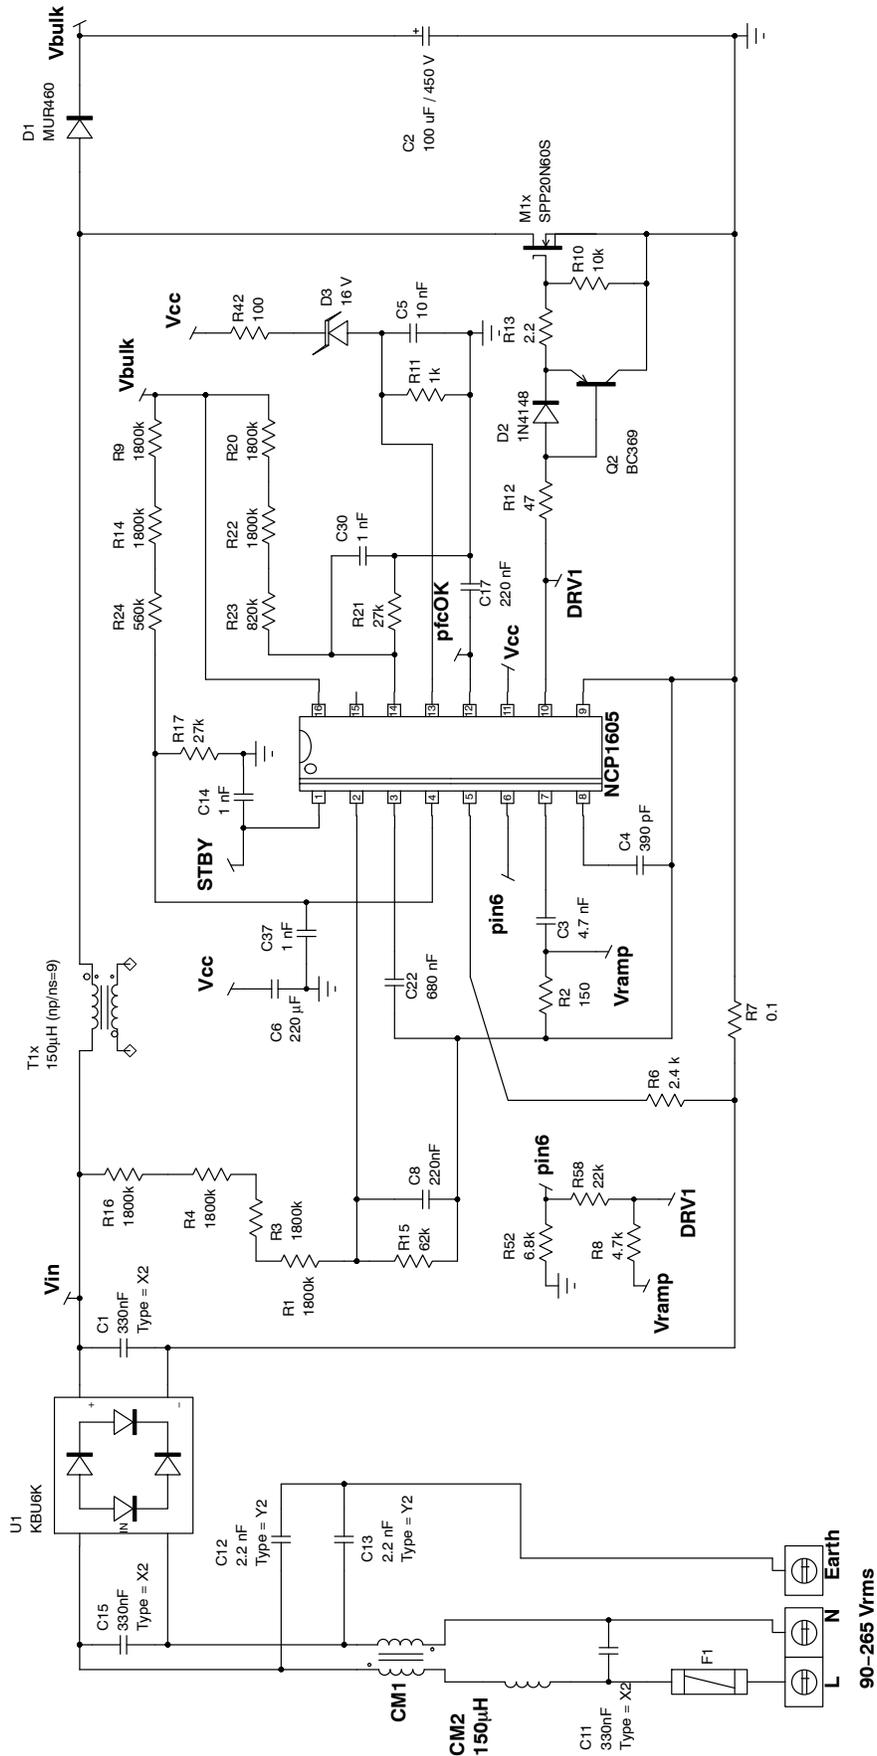

Figure 2. NCP1605 Forward Evaluation Board Schematic - PFC Stage
- Shut-down: if more than 2.5 V are applied to pin 13, the circuit latches off and cannot recover operation until the SMPS is unplugged (to enable the NCP1605  $V_{\text{CC}}$  voltage to drop below its 4 V reset voltage). This latching capability is supposed to trigger in case of a major fault like any overheating of the SMPS. In this application, it is used to disable the power supply in case of a severe runaway of the  $V_{\text{CC}}$  voltage. This is simply made by applying the  $V_{\text{CC}}$  voltage through a 16 V zener diode (D3) so that if  $(V_{\text{CC}} - 16 \text{ V})$  exceeds 2.5 V, the circuit latches off (see Figure 2). R11 adjusts the biasing current through D3 and together with R42 and C5, this resistor avoids that the protection falsely triggers due to some noise. R42 is chosen small compared to R11 not to modify the threshold since the actual voltage applied to pin 13 is: